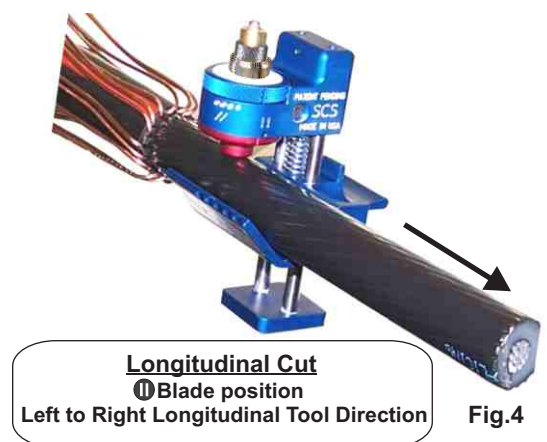

Fig.4
4. Longitudinal score cuts: (Fig.4) If preferred, the tool will allow for longitudinal score cuts as an option. After finishing the ring cut in step 2, proceed to the longitudinal cuts by rotating the blade positioning knob to the longitudinal tracking position. || Carefully pull the tool down the full length of the cable scoring it to the cable end. Position the tool back on the cable at the ring cut and create the desired amount of score cuts down the length of the semi-con.